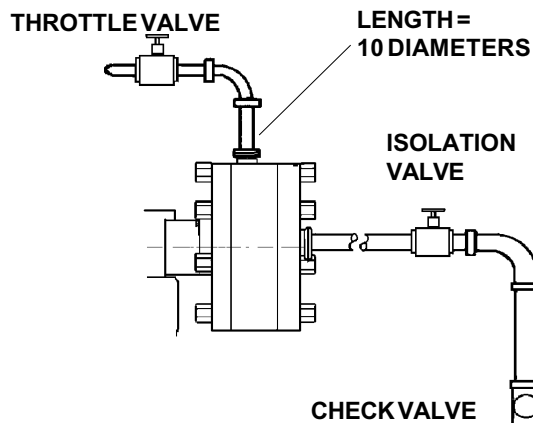

Figure 10
Install shutoff valves to isolate pump from supply and discharge lines to allow pump service without draining system. (Figure 10)
If pump is installed above supply liquid level, install a check valve system to keep casing flooded for priming. (Figure 10)
A throttling valve may be required to control pump flow rate to prevent motor overload; if a throttling valve is used always install in discharge piping, never in supply piping and at least 10 diameters from pump outlet. (Figure 10)
5. Close vent valves; than outside supply line. Use a type of check valve system to keep supply line and pump casing flooded with liquid. Otherwise the pump must be primed before each operation. (See Figure 10)